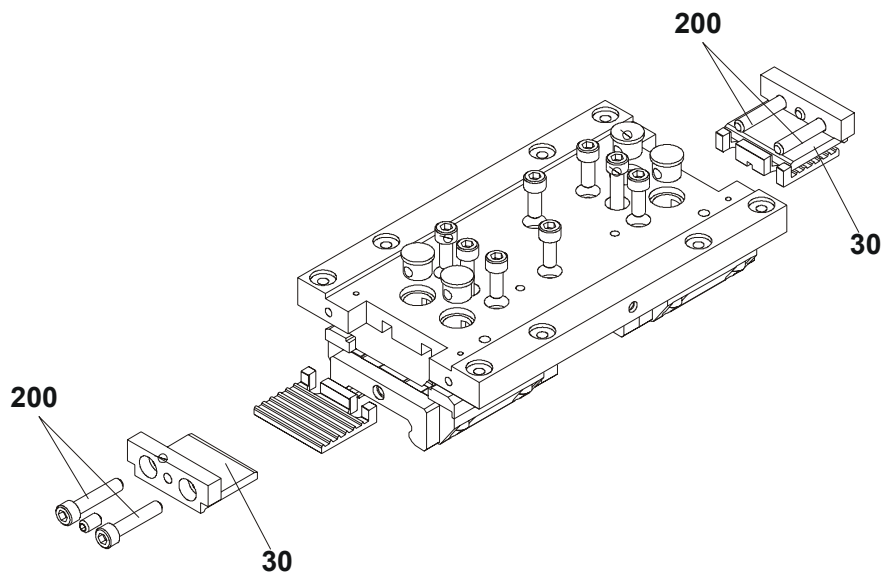

Figure 23: Loosen the screws and remove the pressure piece
- (1) Loosen the M6x35 screws (pos. 200, *Figure 23*)
- (2) remove the pressure piece (pos. 30, *Figure 23*)